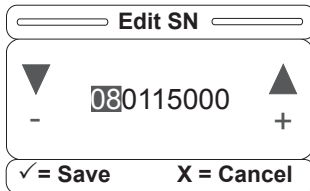

Figure S-22
23. Once the bed up/down lock key is pressed, the highlighted sections will change as indicated above in Figures S-22, 23, 24 and 25. Hold down "Enter" on the footboard panel for two seconds to save the serial number or press "Exit" to cancel the operation.